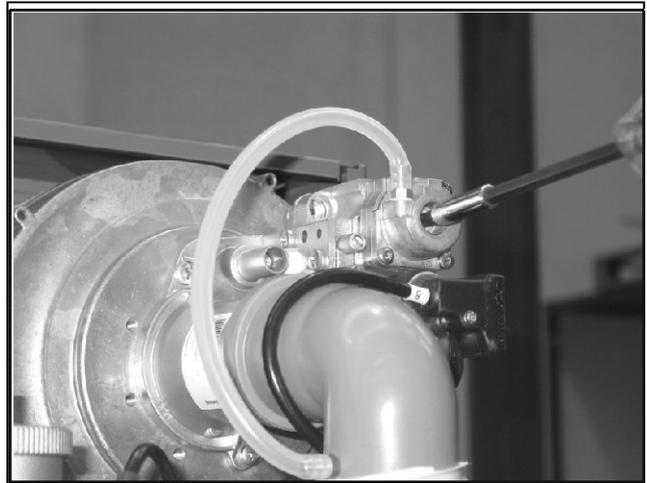

Fig 7.4.11 - Gas Valve Offset Adjustment
11. The minimum gas rate can now be set. This again is based on the flue gas analysis rather than a fixed pressure. Check the CO₂ values in accordance with table 7.1. If the CO₂ values are incorrect then adjustment must be made by adjusting the gas valve offset adjustment screw. See figure 7.4.11. Turning the offset screw anticlockwise decreases the gas flow and decreases the CO₂ value. Turning the offset clockwise increases the gas flow and increases the CO₂ value. See fig 7.4.11.